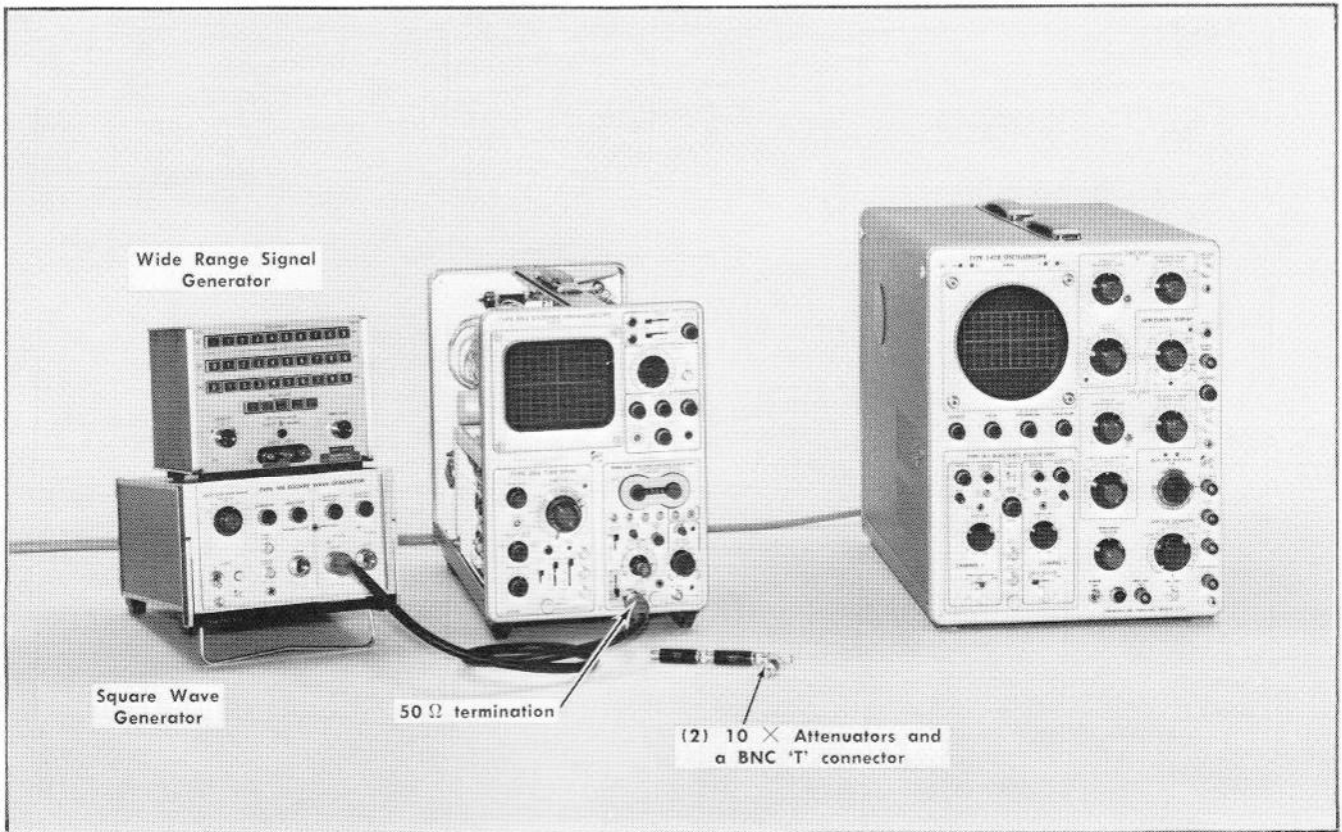

Fig. 6-18. Equipment setup for adjusting the output amplifier compensation and checking the video frequency response.
a. Equipment setup is shown in Fig. 6-18.